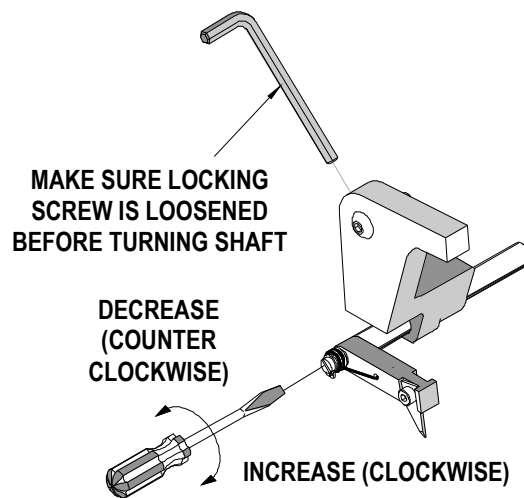

Figure 3-10 FEED FINGER ADJUSTMENT
4. With a small screwdriver, rotate the feed finger shaft CW to increase or CCW to decrease spring tension on the feed finger. Tighten the feed finger shaft locking screw to lock the feed finger in position. See Figure 3-10.